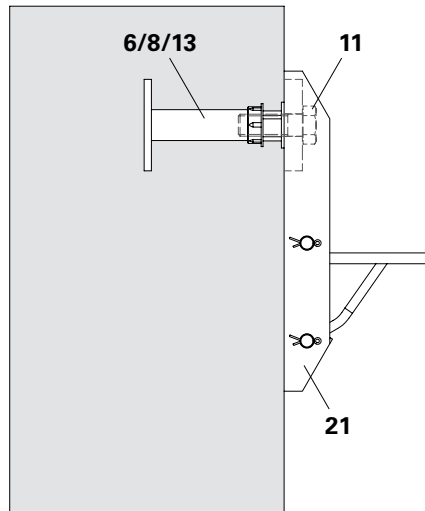

Fig. A2.28a
1. Place the Folding Bracket 25 (21) on the anchor position and vertically align.
2. Firmly attach the Folding Bracket 25 (21) to the Anchor (6/8/13) using bolt ISO 4014 M24 x 70-10.9 (11). (Fig. A2.28a + A2.28b)